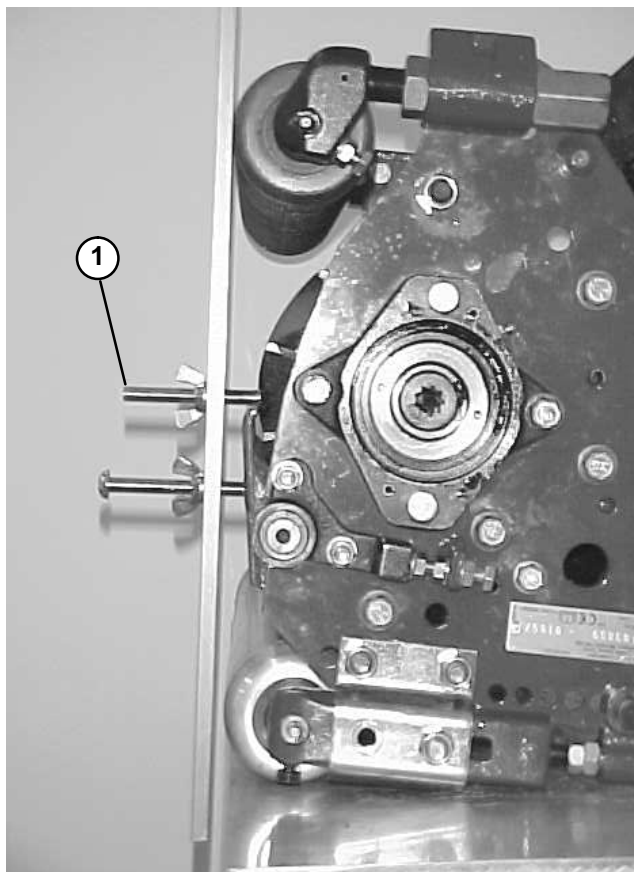

Figure 20
3. Place the gauge bar across front and rear rollers. The first screw head needs to fit snugly over edge of the bedknife, while the gauge bar contacts the front roller (Fig. 20).
9. Put 1st screw back to the normal position (screw head hooks over bedknife) and set to desired height of cut (Fig. 20)
10. Place the gauge bar across front and rear rollers. While the first screw head fits snugly over edge of the bedknife and the second screw contacts the bedknife, adjust the front roller until contacts the gauge bar (Fig. 20).